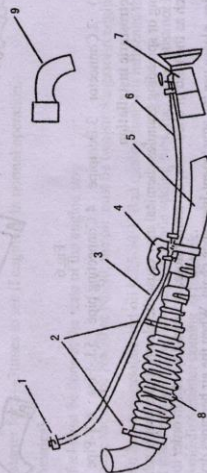

Fig.4
- 3) Connect spraying pipe to the machine as shown in Fig.4.